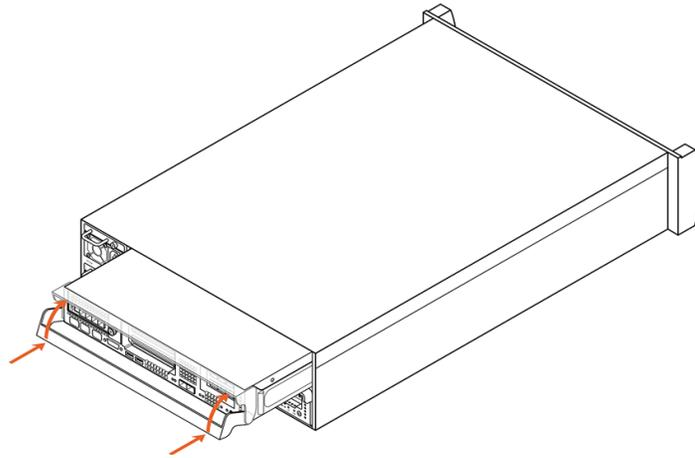

Figure 7-11. Installing a Controller
1. Align the replacement controller with the controller slot. See Figure 7-11.